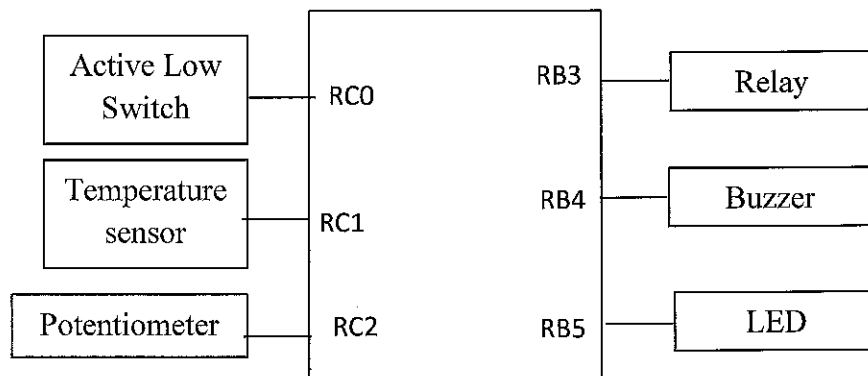

Figure A1 (c)/ Rajah A1(c)
- c) Figure A1(c) show the connection between input devices and output devices with PIC microcontroller. Write the C language to configure the input/output port using bit addressable and byte addressable.